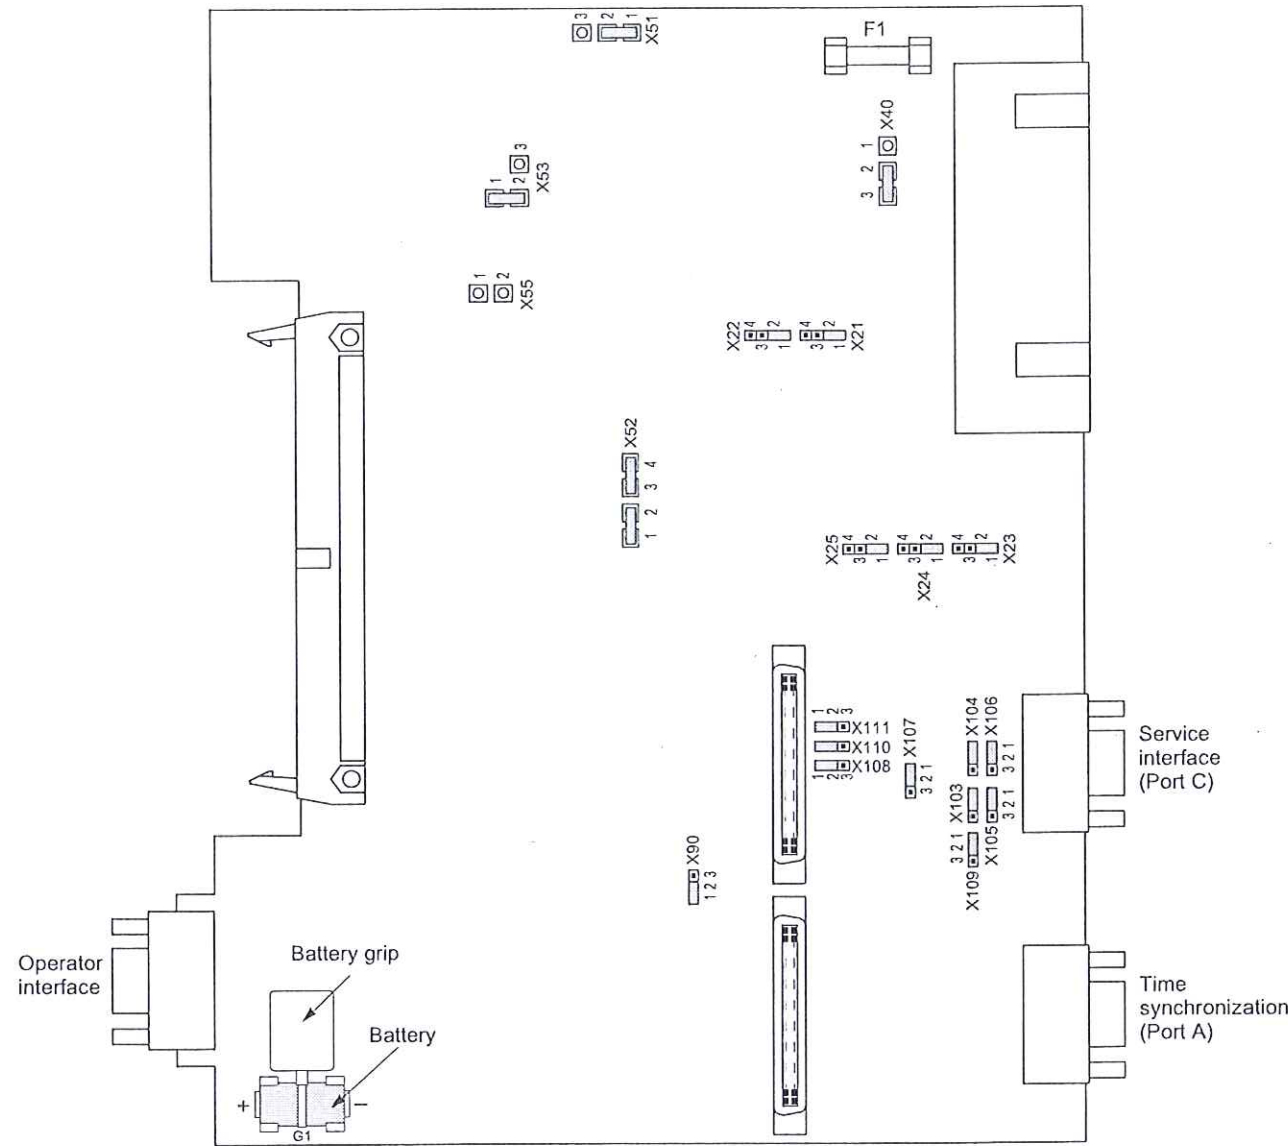

Figure 3-6 Processor board CPU with representation of the jumper settings required for the module configuration
Spare Parts	Spare parts may be the backup battery that maintains the data in the battery-buffered RAM when the voltage supply fails, and the miniature fuse of the internal power supply. Their physical location is shown in Figure 3-6. When exchanging the battery or fuse, please observe the hints given in the System Manual (order no. E50417–H1176–C151) in Chapter “Maintenance”.
- ☐ At one end, disconnect the ribbon-cable between the front cover and the CPU board (❶). To disconnect the cable, push up the top latch of the plug connector and push down the bottom latch of the plug connector. Carefully set aside the front cover.
- ☐ Disconnect the ribbon-cables between the CPU board (❶) and the I/O-11 board (❷).
- ☐ Check the jumpers according to Figures 3-6 to 3-10 and the following notes. Change or remove the jumpers as necessary.
- ❶ Processor printed circuit board CPU with power supply
- ❷ Input/output printed circuit board I/O-11
The design of a jumper setting for the processor board CPU is shown in Figure 3-6. The preset rated voltage of the integrated power supply is checked according to Table 3-2, the quiescent state of the life contact is checked according to Table 3-3, the pickup voltages of the binary inputs BI1 through BI5 are checked according to Table 3-4, and the integrated RS232/RS485 interface is checked according to Tables 3-5 to 3-7.